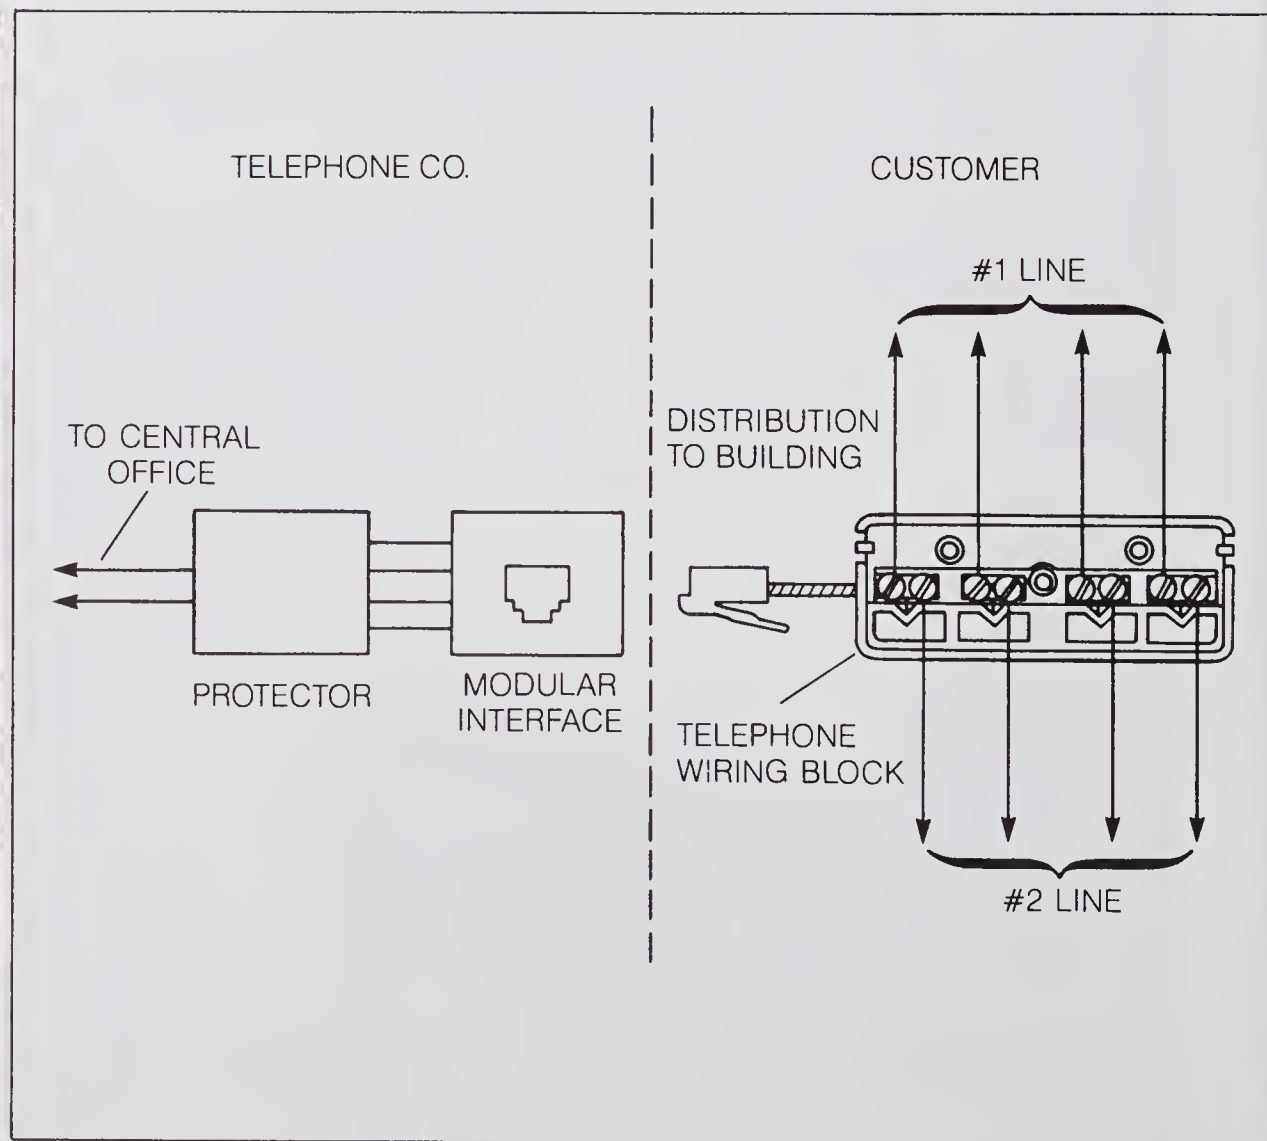
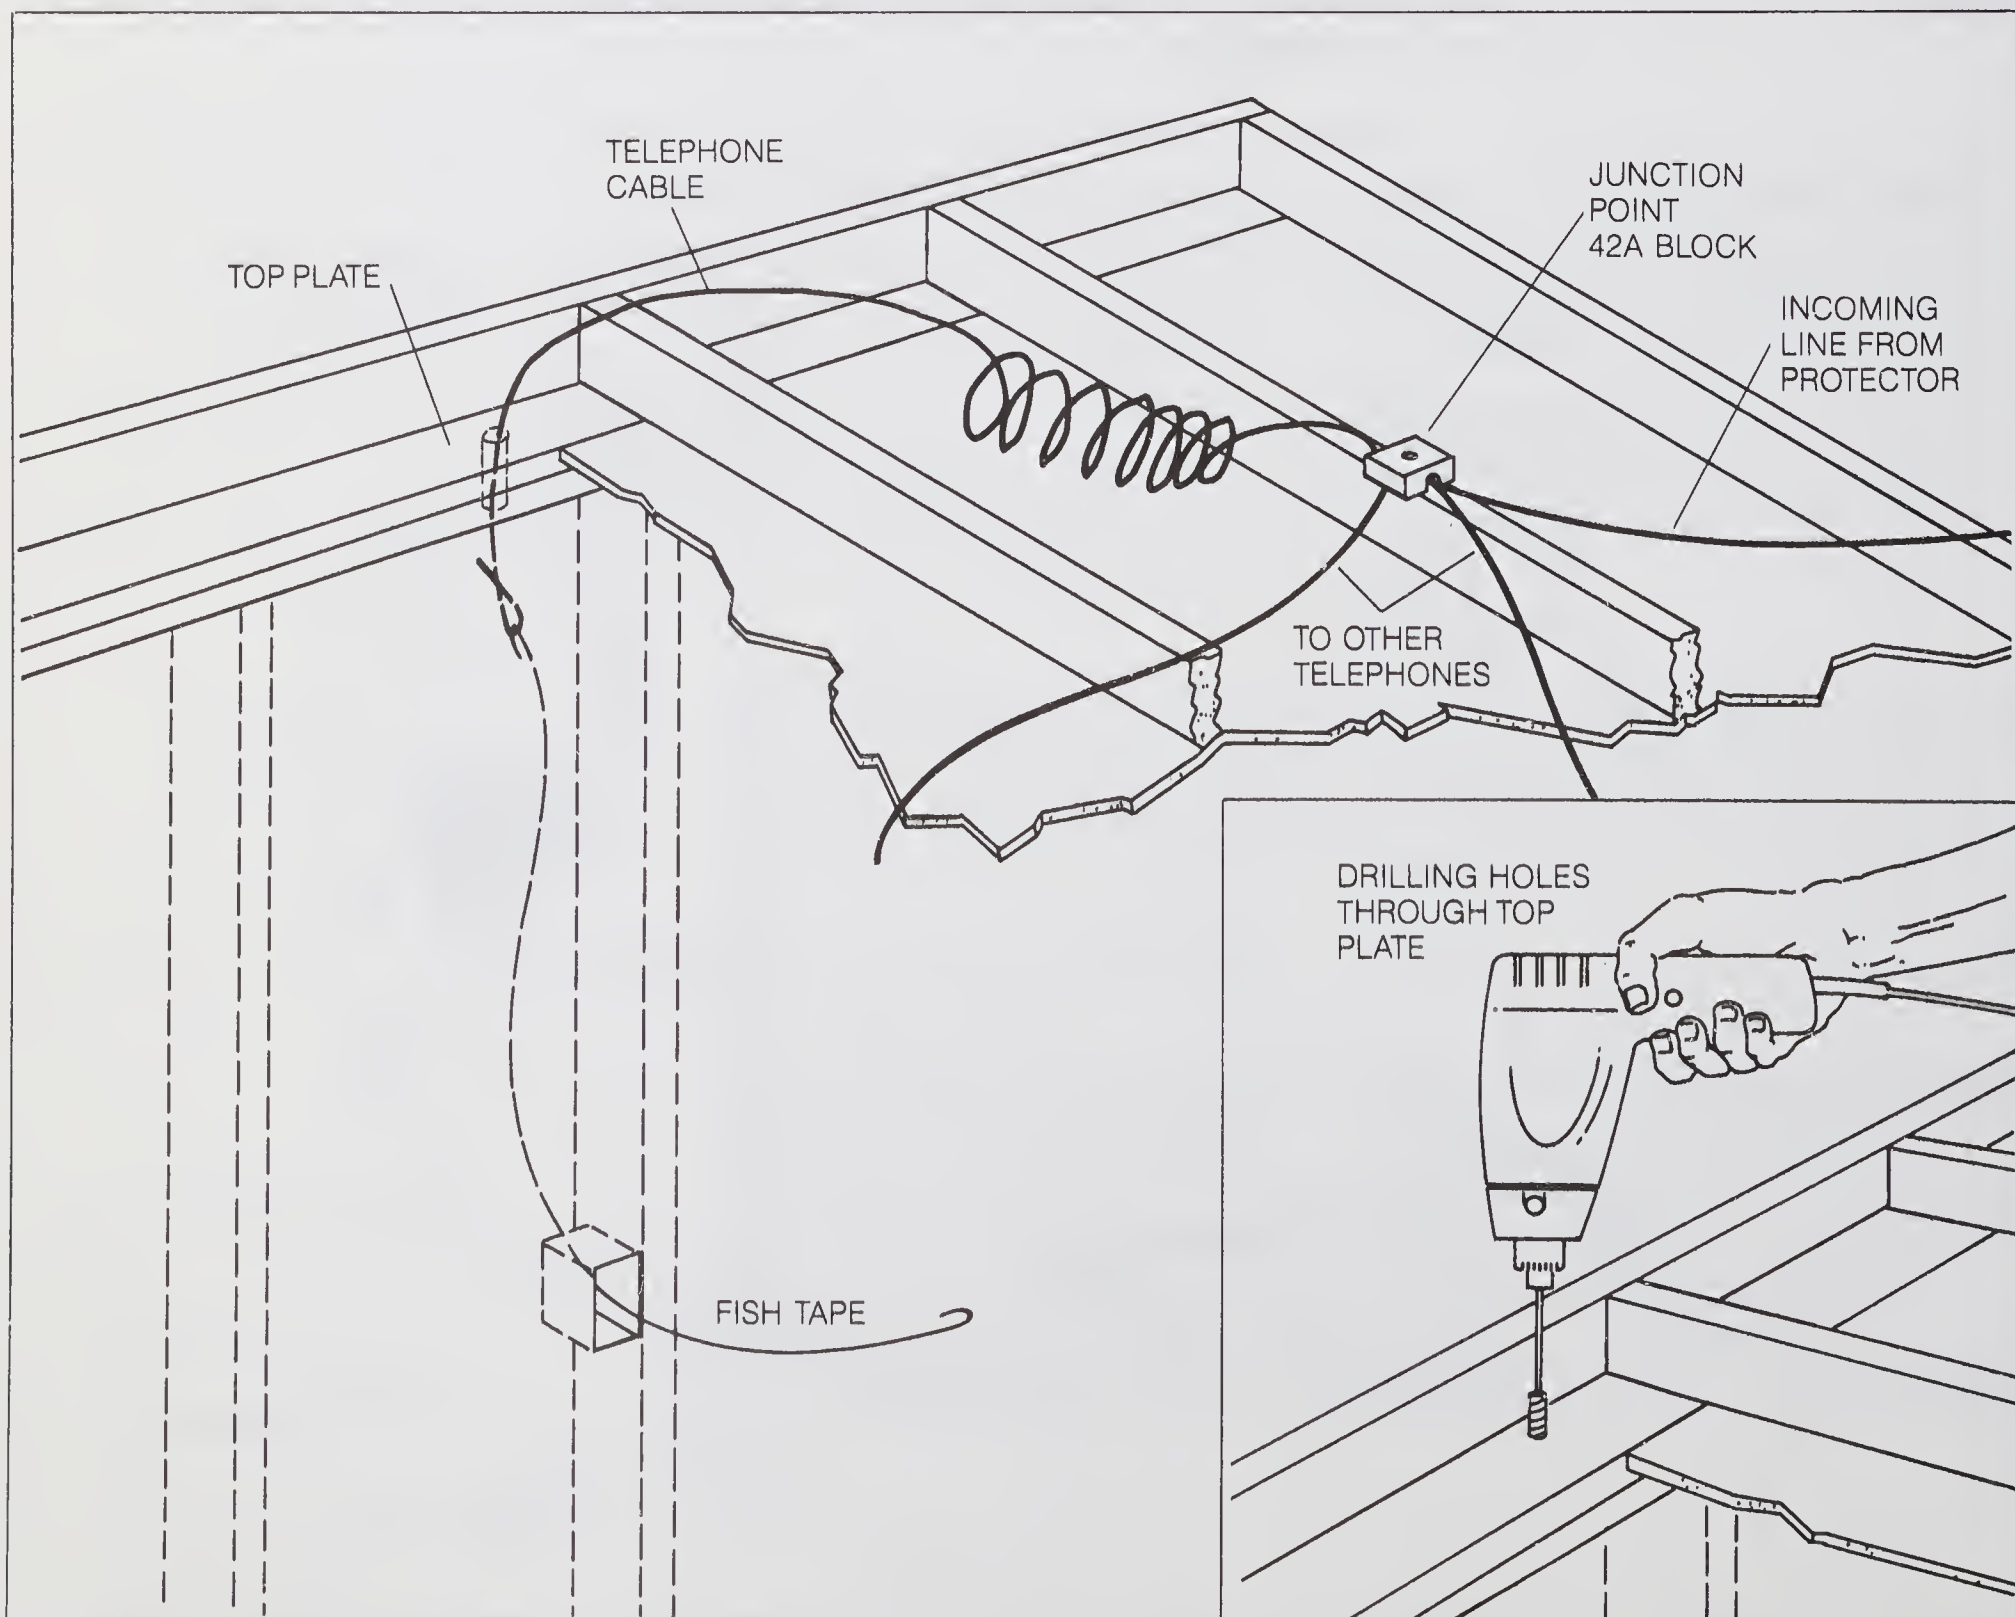
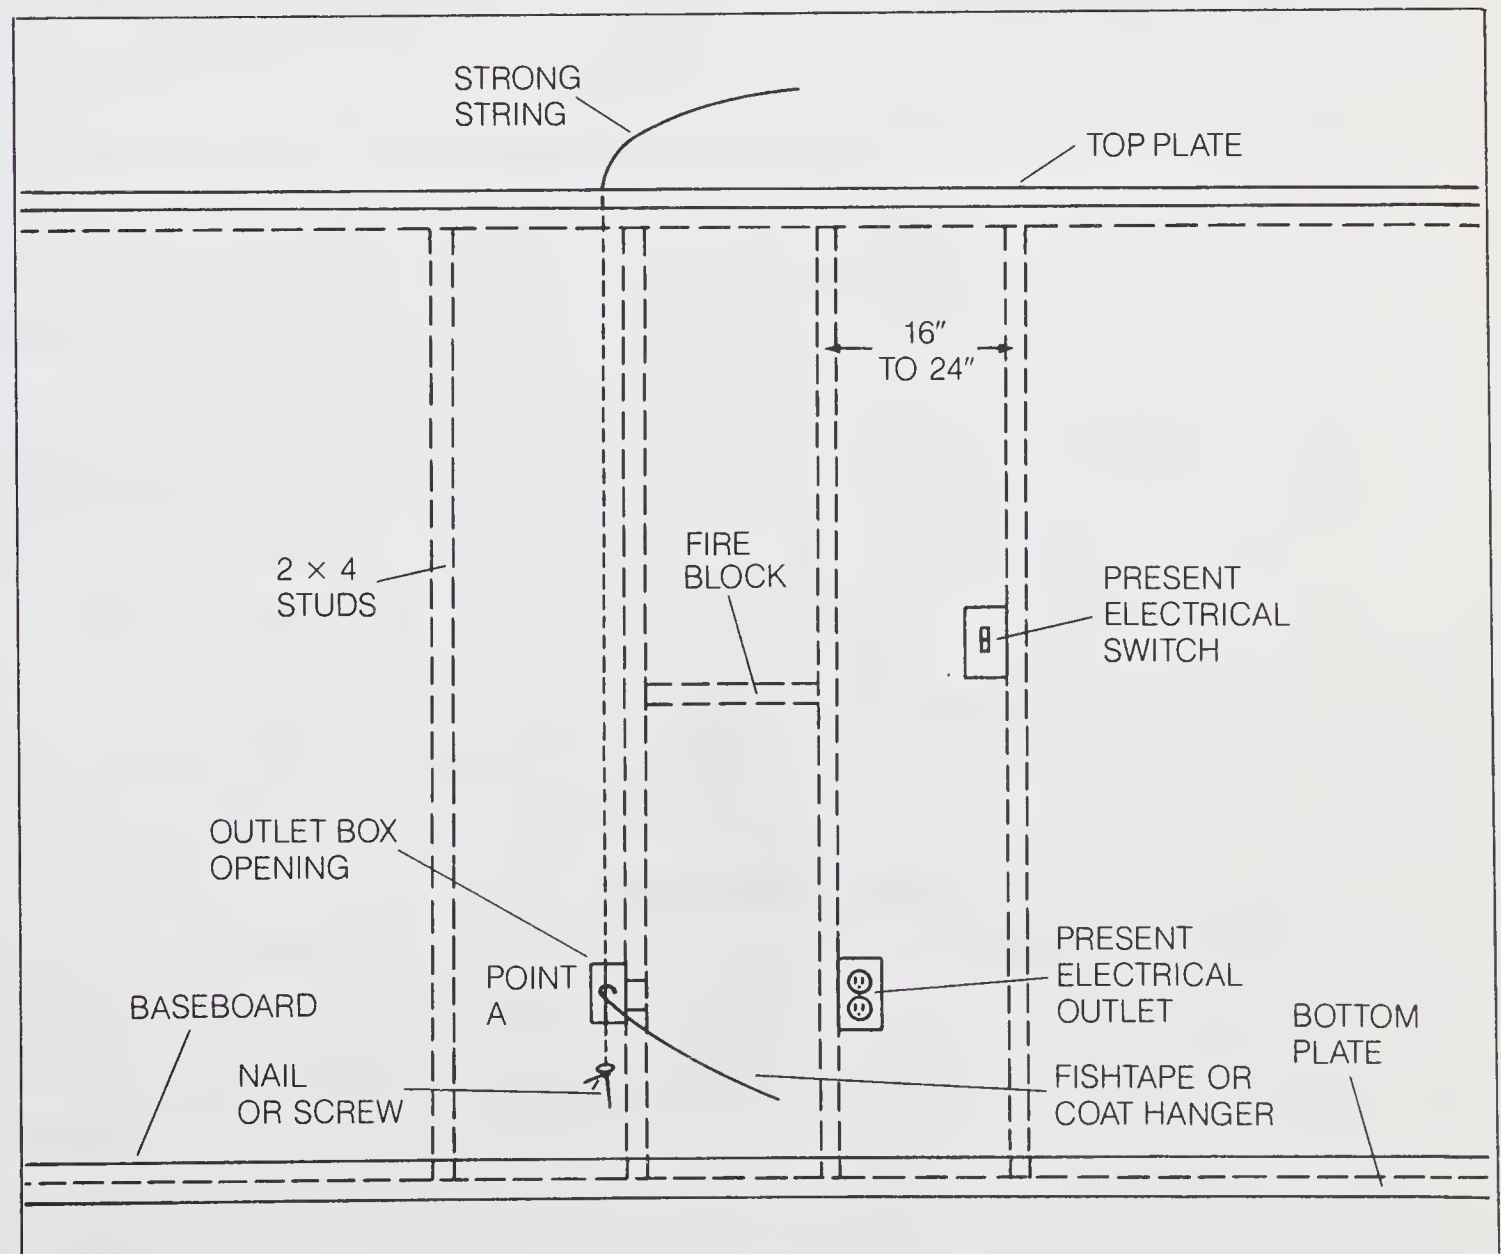

Figure 5-2.
Figure 5-7.
Figure 5-8.
Two important points that have been mentioned previously need to be mentioned again before planning the layout of your added telephones. New telephones that you purchase and install will not be serviced by your local telephone company; therefore, plan your added telephone layout to have a central modular disconnect. This provides quick isolation of your added telephones when a trouble must be located in the telephone company line. A telephone wiring block that provides a junction for two cable connections of four conductors each (*Figure 5-2*) can be used. It connects to the system with a modular plug to provide an easy disconnect system.
If space is available, the attic probably is the best access for distributing concealed cables for adding telephones. The biggest problem is fishing the cable through the wall and ceiling spaces. If the wall surface were removed as shown in *Figure 5-7*, you would see 2" × 4" studs approximately 16" to 24" on centers running from floor to ceiling. At the floor level, there is one 2" × 4" laid on its side for a bottom plate; at the ceiling level, there are two 2" × 4" studs laid on their side for the top plate. Some of the studs may have fire blocks between them as shown in *Figure 5-8*.
Figure 5-7 shows the top of the wall structure from the attic. The insert shows how holes must be drilled in the top plate in order to run the cable into the wall at the correct location. This requires an 18" drill bit of at least 1/4" and preferably 3/8".
Here's how a typical installation would be made. Refer to *Figure 5-7* and 5-8. A new outlet is to be installed at point A. Follow these steps:
| 3. | Go into the attic and locate the top plate and correct studs as shown in Figure 5-7 . Drill a hole through the top plate with a $\frac{3}{8}$ " drill (or at least $\frac{1}{4}$ "). |
4. As shown in *Figure 5-8*, tie a nail or screw or small plumbob to a strong string and drop the weighted string through the top plate hole. Have a partner listen in the room where the outlet box is to be installed. If a noise is heard at the floor level when the weight is bounced up and down, the wall is clear and you can proceed to step 5. If the weight is stuck at the fireblock level of *Figure 5-8*, the location of the outlet may have to be moved over a stud so that the fireblock can be avoided. This requires locating a new stud and drilling a new hole through the top plate.
6. After the hole is cut, fish the string through the outlet hole with a fish tape or a coat hanger that has been straightened out and a hook put in the end as shown in *Figure 5-8*.
7. One of two methods can be used to get the cable into the wall. In the first method, pull a fish tape up through the top plate hole by attaching it to the string at the outlet box. Use the fishtape to pull the cable back down from the attic through the top plate as shown in *Figure 5-7*. In the second method, tie the cable to the string at the outlet box and pull the cable up through the top plate into the attic.
As shown in *Figure 5-7*, a 42A block can be used as a terminal strip in the attic. If this is located at a convenient place in the attic, it becomes the junction point that was discussed in *Figure 5-2*. The 42A has a quick connect modular jack connected to it with spade lugs. A telephone wiring block of *Figure 5-2* is plugged in the modular jack, and the interconnecting cables wired to the telephone wiring block to make the quick disconnect system.